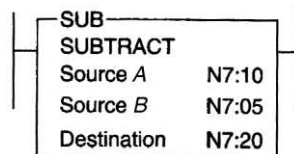

Figure 11-15 Logic rung for question 7.
7. The rung of Figure 11-15 is telling the processor to subtract the value stored in word (a) ____ from the value stored in word (b) ____ and store the difference in word (c) _____. 7a. _____